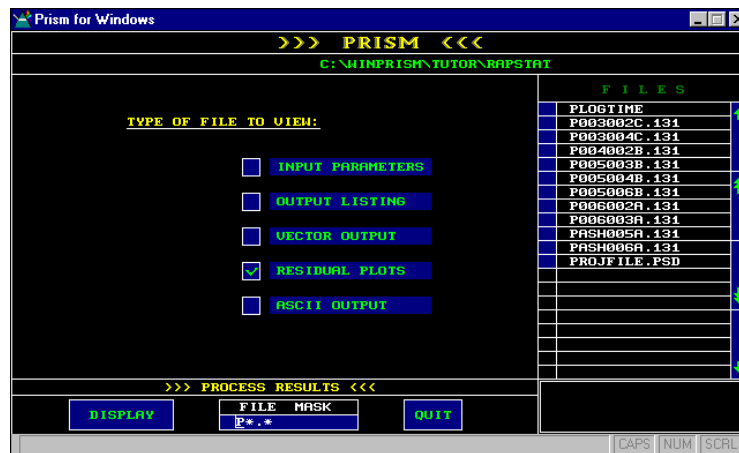

Figure 8.21: P-File Current File Directory
1. Select RESIDUAL PLOTS to bring up the matching P-files in the current directory (Figure 8.21).